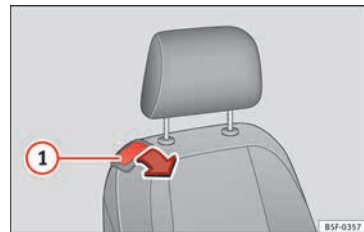

Fig. 147 Front passenger seat: lever for folding down the backrest.
- Pull lever ① »» Fig. 147 and push the seat backrest until the backrest is horizontal.